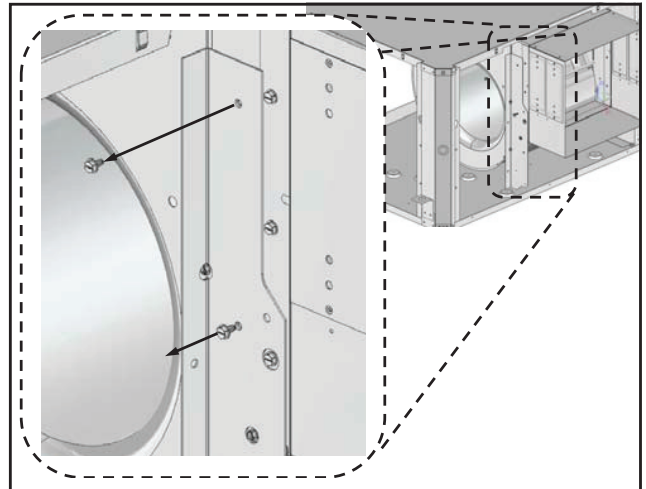

Fig. 49 - Remove Blower Assembly
9. Remove the blower assembly by sliding it forward. See Fig. 49.